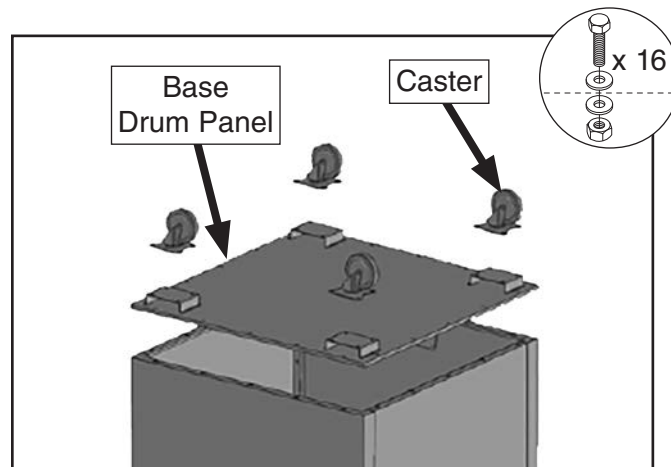

Figure 33. Attaching base drum panel and casters.
41. Turn assembly upside-down and attach base drum panel (see **Figure 33**) with (20) $\frac{5}{16}$ "-18 x $\frac{3}{4}$ " hex bolts and $\frac{5}{16}$ " flat washers.
42. Attach (4) casters to base panel with (16) $\frac{5}{16}$ "-18 x $\frac{3}{4}$ " hex bolts and $\frac{5}{16}$ " flat washers (see **Figure 33**).